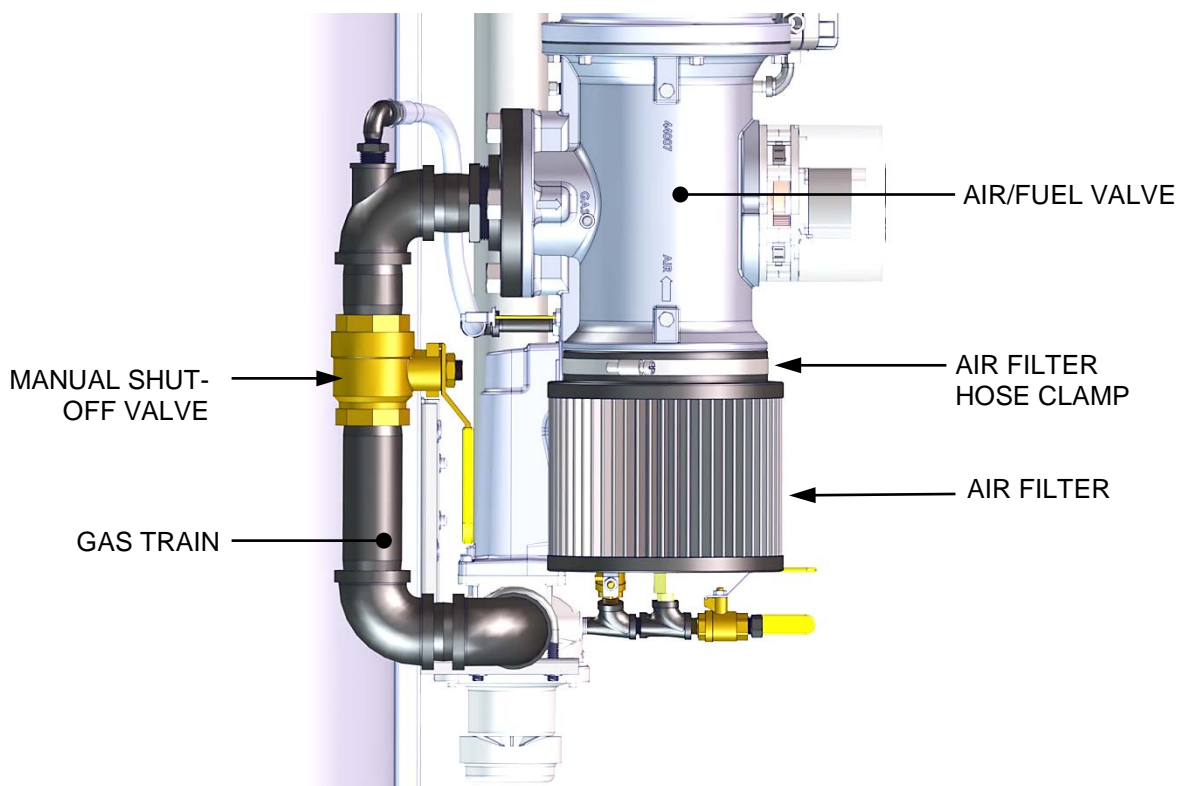

Figure 4-8: Air Filter Location (BMK 1500/2000 Shown)
The Benchmark boiler is equipped with an air filter which should be cleaned and re-oiled every 12 months and replaced every 24 months. The air filter is located at the air fuel valve inlet, as shown in Figure 4-8.
2. Remove the top shroud from the unit by grasping the top handle and lifting straight up. This will disengage the shroud from the four (4) pins in the side panels.
3. Refer to Figure 4-8 and locate the air filter attached to the air/fuel valve inlet.